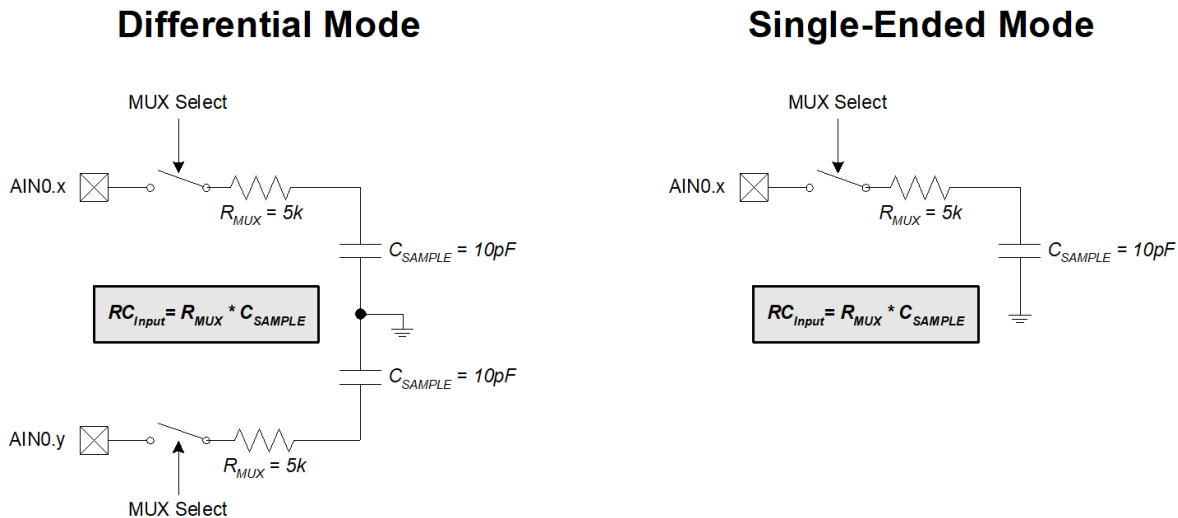

Figure 5.4. ADC0 Equivalent Input Circuits
A minimum tracking time is required before an accurate conversion can be performed. This tracking time is determined by the ADC0 MUX resistance, the ADC0 sampling capacitance, any external source resistance, and the accuracy required for the conversion. Figure 5.4 shows the equivalent ADC0 input circuits for both Differential and Single-ended modes. Notice that the equivalent time constant for both input circuits is the same. The required settling time for a given settling accuracy (SA) may be approximated by Equation 5.1. When measuring the Temperature Sensor output, R_{TOTAL} reduces to R_{MUX} . An absolute minimum settling time of 1.5 μs is required after any MUX or PGA selection. Note that in low-power tracking mode, three SAR clocks are used for tracking at the start of every conversion. For most applications, these three SAR clocks will meet the tracking requirements.